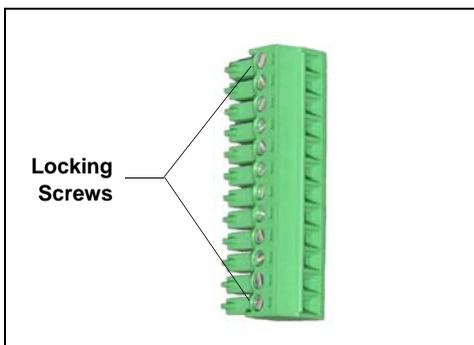

Figure C-2. 12-Position Connector Plug
1. Locate the 12-position connector plug (P/N 923686) (see Figure C-2) provided in the Dionex Easion Ship Kit (P/N 067768).